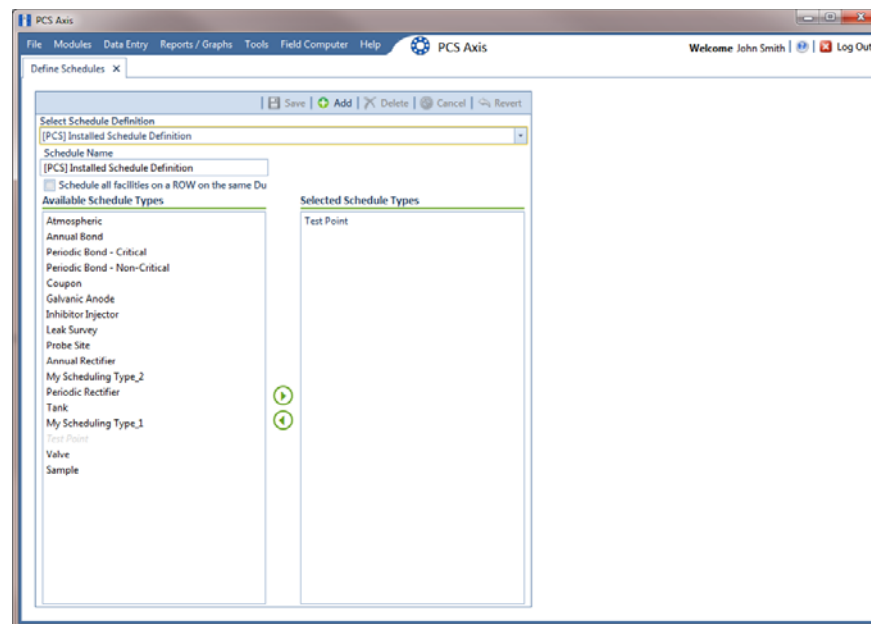

Figure 8-9. Define Schedules
- 1 Click **Data Entry** > **Define Schedules** to open the *Define Schedules* window (Figure 8-9).